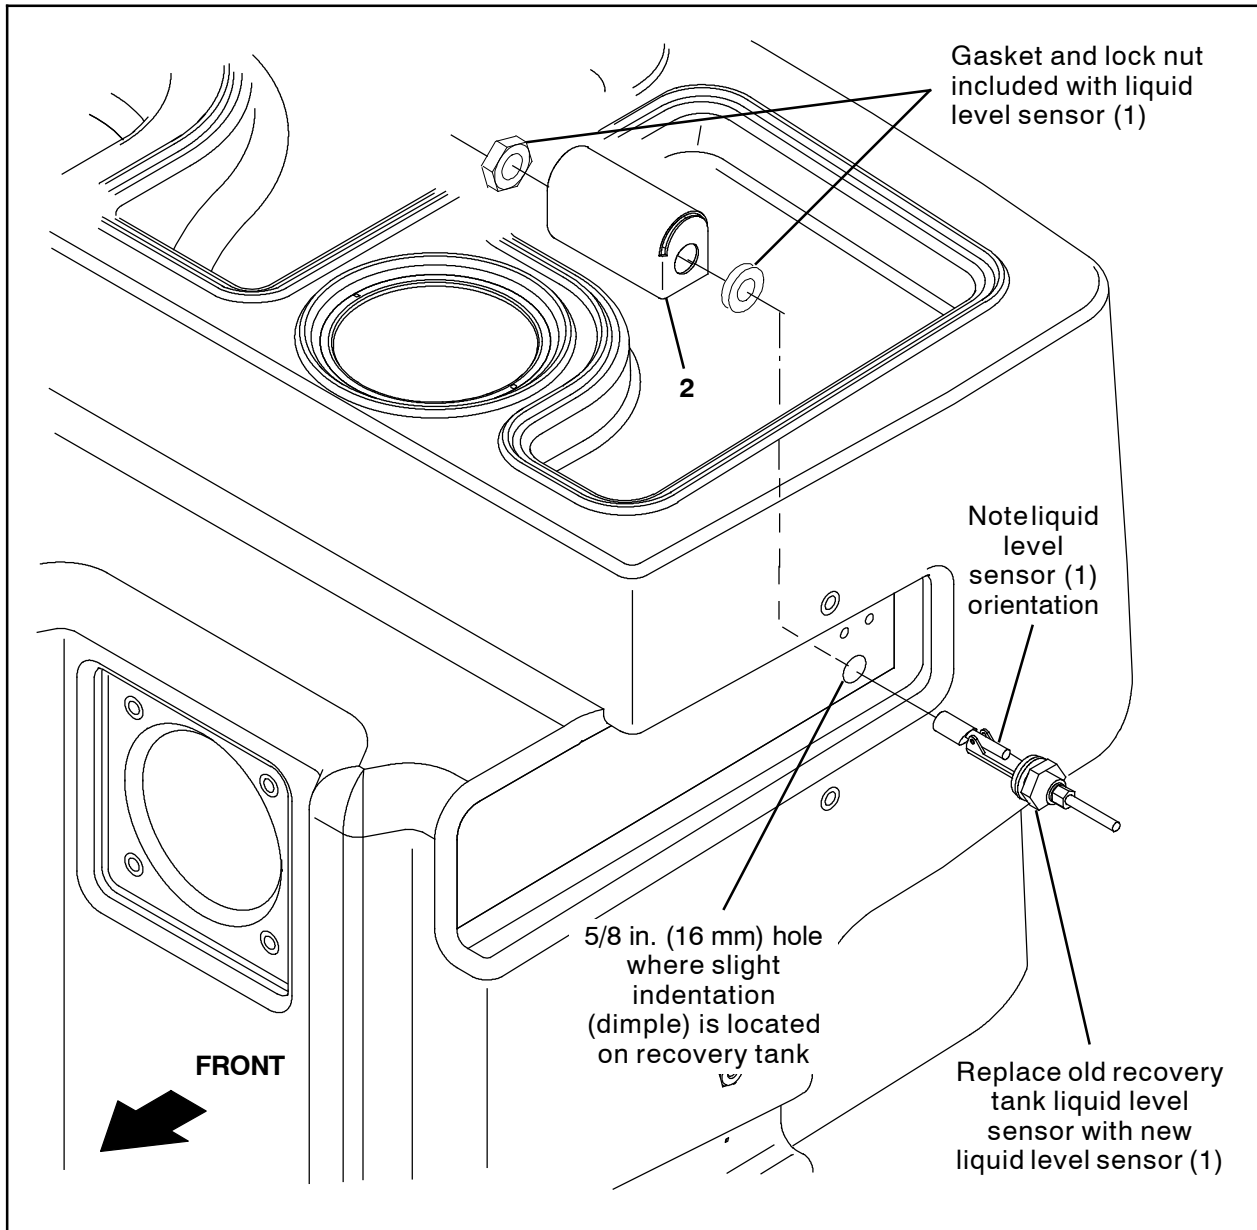

FIG. 1
3. Drill a 5/8 in. (16 mm) hole into the side of the recovery tank where the slight indentation (dimple) is located. (Fig. 1)
4. Remove the lock nut and gasket from the new liquid level sensor (1). (Fig. 1)
5. Route the main wire harness liquid level sensor to where new liquid sensor (1) will be installed and connect the main harness to the new liquid level sensor.
6. Use the lock nut and gasket to install the liquid level sensor (1) and float switch protector bracket (2) into the recovery tank. (Fig. 1)
NOTE: Position the liquid level sensor so the narrow end of the float mechanism is oriented as shown in Fig. 1.